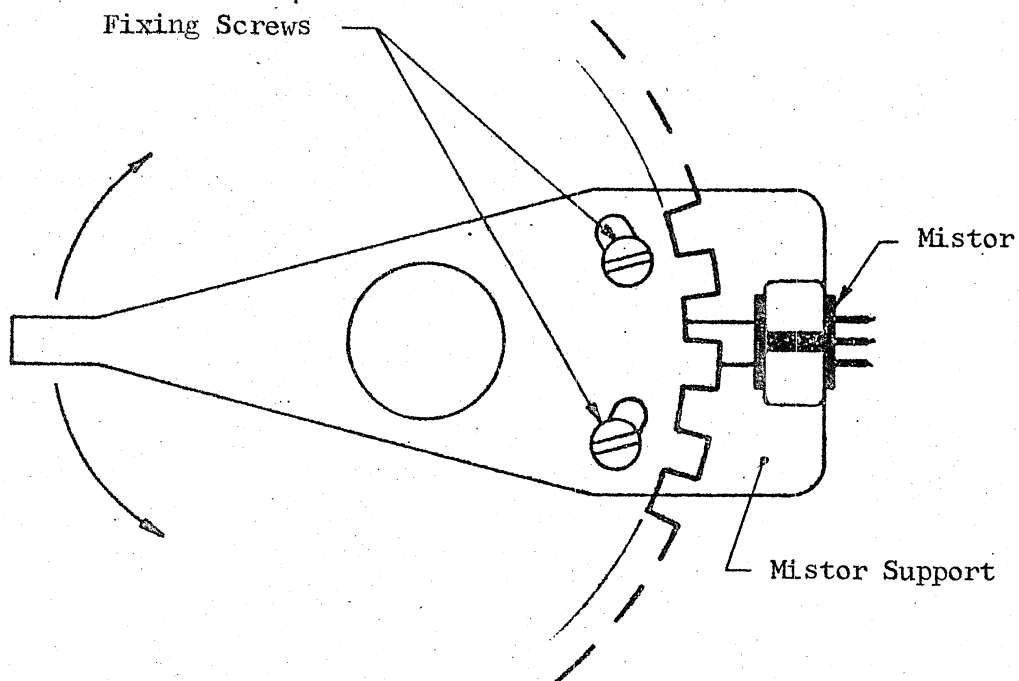

Fig. 8.2
- Position the carriage so that the gear holes allow access to the mistor support screws. (Refer to fig. 8.2).